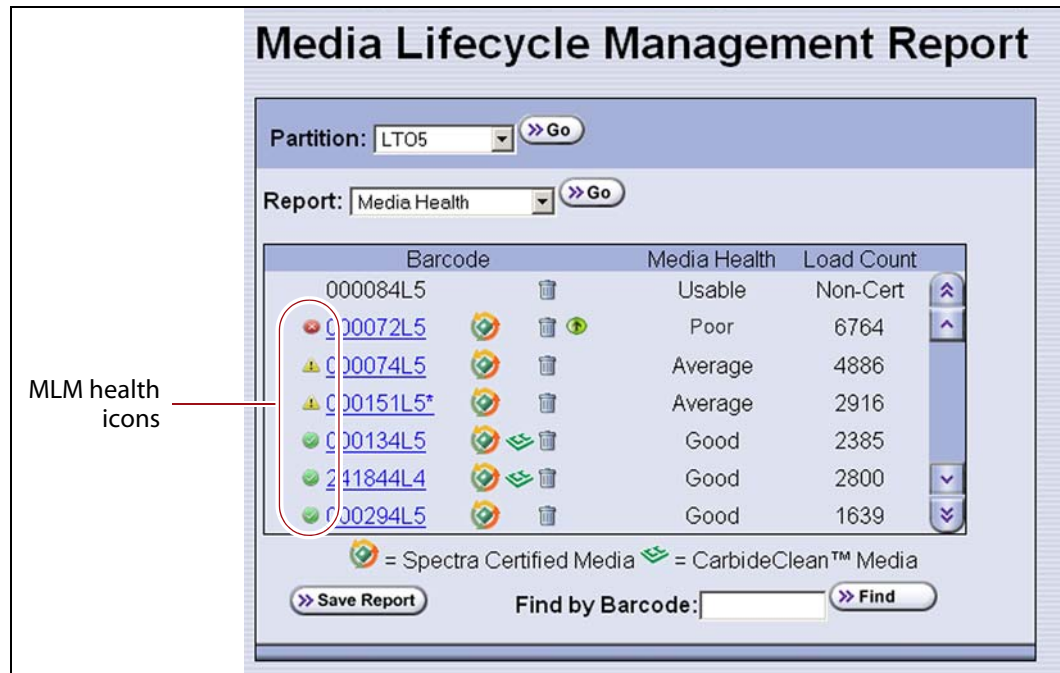

Figure 172 Use the health icons on the Media Lifecycle Management Report screen to quickly assess media health.
8. Click **Previous** to return to the main Media Lifecycle Management Report screen (Figure 172 on page 303).
Report Selected Data	Only the fields displayed in the report that you selected on the Media Lifecycle Management Report screen (Figure 172 on page 303). Note: The headings in the saved report reflect the fields displayed in the report you selected in the Media Lifecycle Management Report screen.